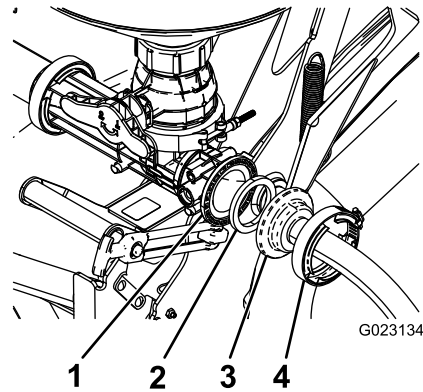

Figure 22
1. Secure the end of the supply hose without a bulkhead to the rear opening on the eductor valve using a gasket and worm-screw clamp (Figure 22).